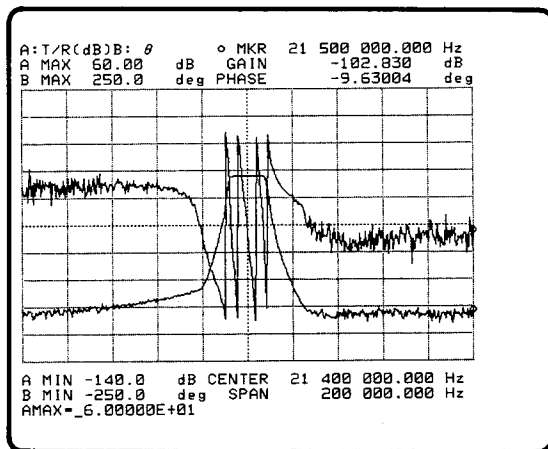

Figure 3-77. AMAX=6.00000E+01
- Press the '**A MAX (B MAX)**' softkey. AMAX=(current value) will be displayed on Keyboard Input Line as shown in Figure 3-77.